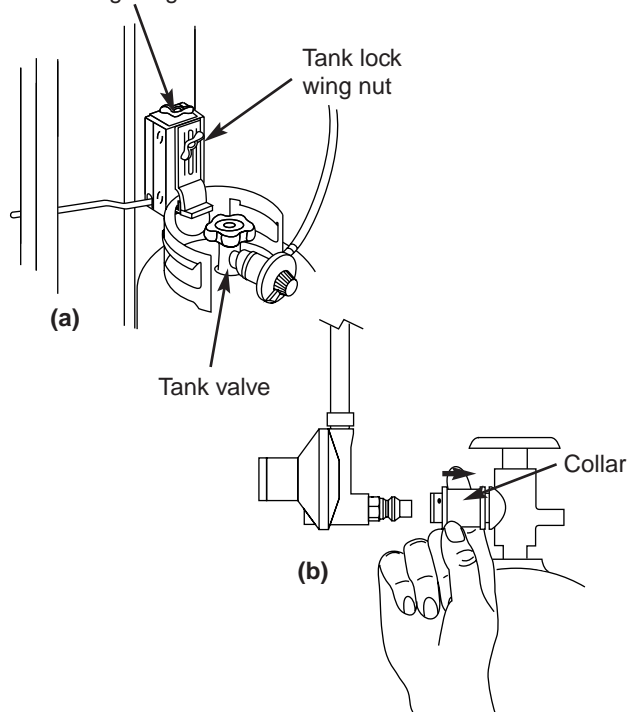

Figure 5
- 1) Close tank valve (turn clockwise). Figure 5 (a).
- 2) Slide the collar back on the quick disconnect to disengage the fitting. Figure 5 (b).